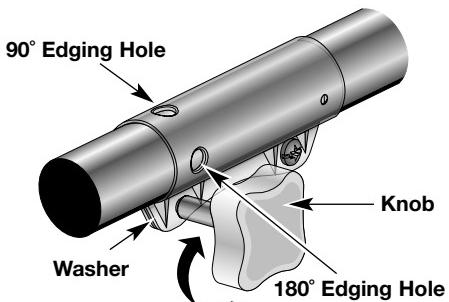

Fig. 14
3. Tighten the knob securely clockwise (Fig. 14).
Lock the release button in the **90° Edging Hole** or the **180° Edging Hole** in the Click-Link® (Fig. 14).
For edging with the cutting attachment on Model 725r lock the release button into the 90° edging hole or 180° edging hole (Fig. 14, Pg. 13).